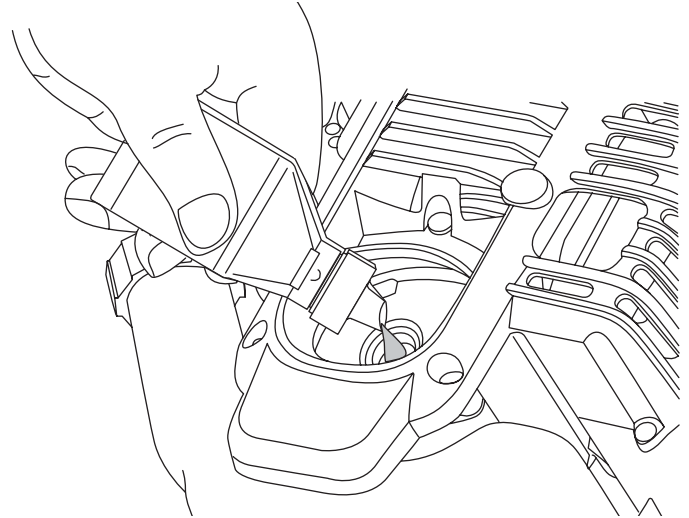

Fig. 6
4. Pour the entire bottle of oil into the oil fill hole (Fig. 6).